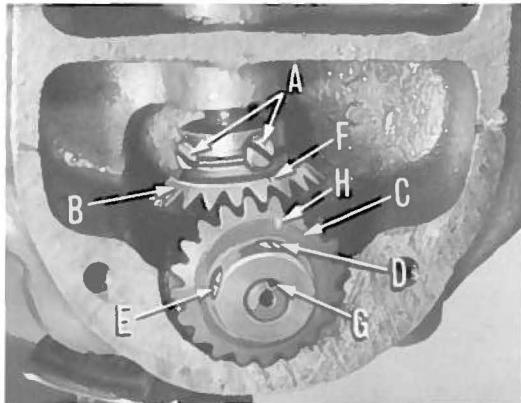

Fig. 5
Turn the handwheel in operating direction until the needle has reached the forward end of its travel and returned $3/32$ inch. At this position, the point of the hook should be over the center of the needle. To obtain this adjustment, remove hook gear cover on the back of the head to expose the gears (Fig. 5). Loosen screws (A) in gear (B) and turn gear (C) in the required direction to position the point of the hook over the center of the needle. Re-tighten screws (A).
The point of the hook should be set as close to the needle as possible without striking it. To make this adjustment, loosen screws (D and E, Fig. 5) and remove gear (C), exposing hook bushing flange (B, Fig. 6). Loosen screw (A) and rotate the hook bushing flange (B) in the required direction to position the hook point as described above. If the hook bushing flange cannot be turned far enough to secure this setting, remove screw (A) and place it in the alternate hole in the casting to secure more adjustment. Re-tighten screw (A).
Turn handwheel in operating direction until timing mark (F, Fig. 5) on gear (B) appears over the hook shaft. Replace gear (C) so that spot screw (D) aligns with "V" groove (G) in hook shaft and turn screw down lightly. Turn gear (C) and hook shaft until timing line (H) on gear (C) aligns with timing line (F) on gear (B).